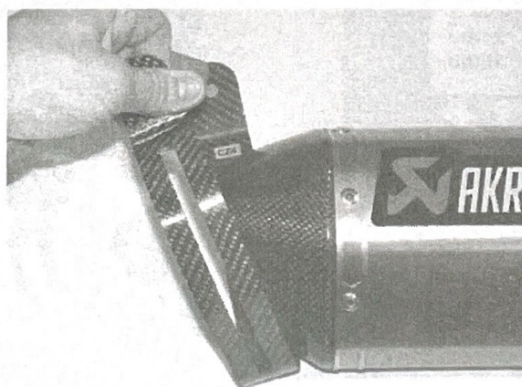

Figure 43
8. For all SLIP-ON systems: correctly position the carbon-fiber clamp and slide it onto the muffler - bear in mind the left offset of the carbon-fiber clamp viewed from the rear. **WARNING!** open the clamp slightly wider than the diameter of the outer sleeve of the muffler – do not scrape it along the muffler outer sleeve! (Figure 43).